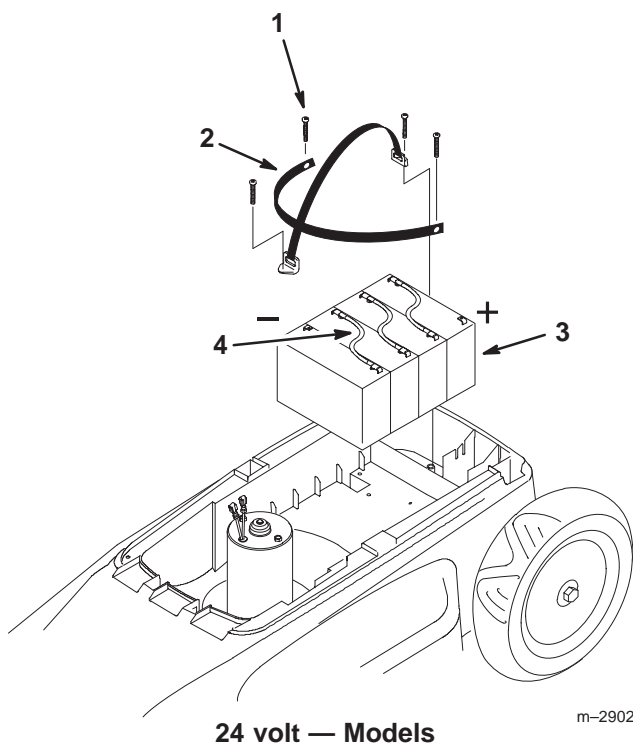

Figure 27
3. Remove screw from battery hold-down strap (Fig. 27).